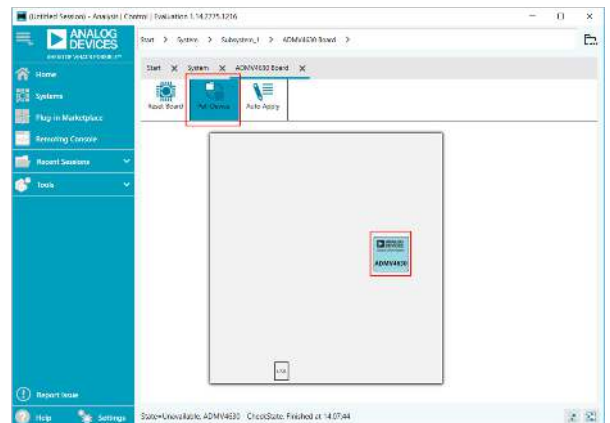

Figure 5. ADMV4630 Board Tab
4. Open the ACE software. The ADMV4630 Board plugin appears in the Attached Hardware section. Double-click the EVAL-ADMV4630Z plugin. The ADMV4630 Board tab opens (see Figure 5).
5. Click off the Poll Device button and double-click the ADMV4630 button (see Figure 5).